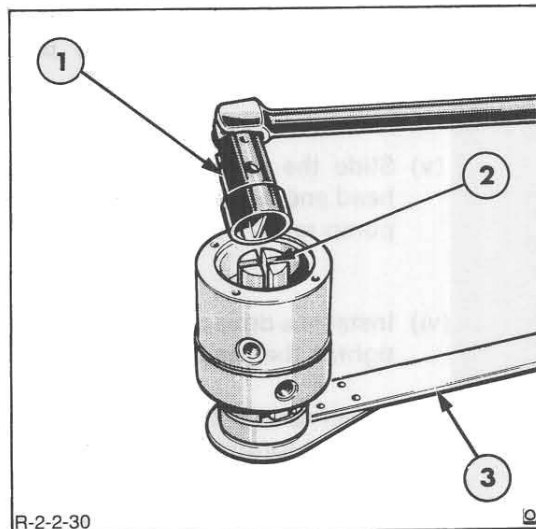

Figure 30
13. Holding the drive hub with tool No. 7144-773 tighten the transfer pump rotor to the specified torque, see 'Specifications' – Chapter 8, using tool No. 7044-889 and a suitable torque wrench, Figure 30.